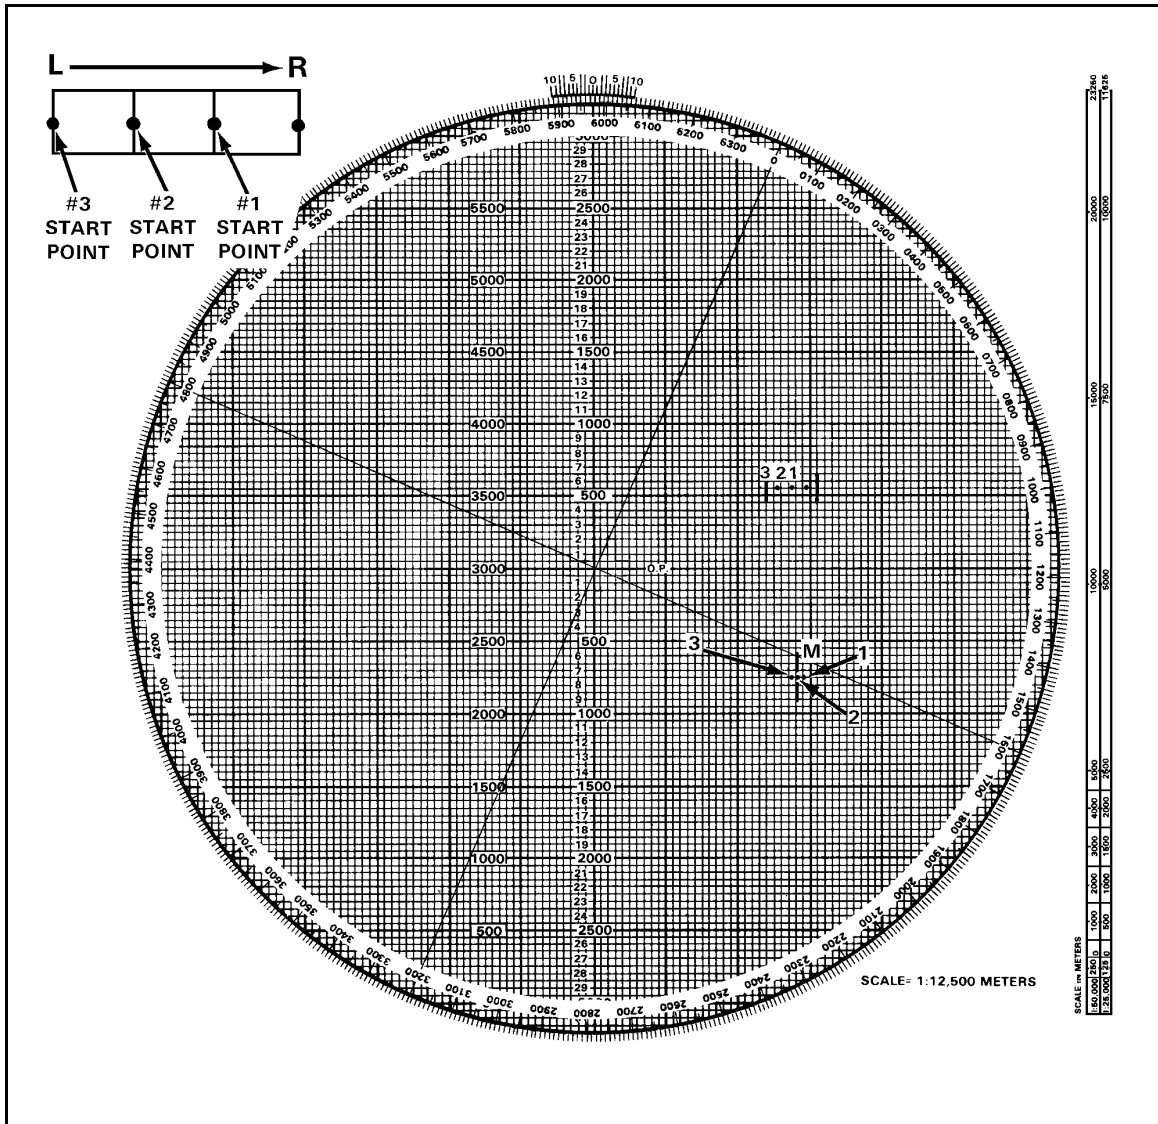

Figure 13-4. Alignment of No. 2 and No. 3 plots.
(1) In the first method, the computer knows the deflection that was used to hit the No. 3 point. By aligning the No. 2 plot and No. 3 mortar, the computer can determine the deflection to fire to hit the start point for the No. 2 mortar (Figure 13-4). Subtracting these two numbers determines the mil width of the segment: